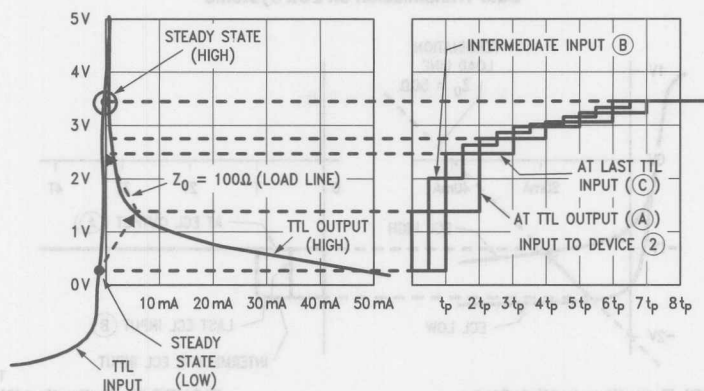

FIGURE 3a. TTL Transition to High State
*Figure 3a* shows IV curves of TTL inputs and outputs in the HIGH state. These curves can be equated to time domain reflection diagrams illustrating the signal integrity. For the example of a  $100\Omega$  environment, *Figure 3b* shows the resulting waveforms. For this example, any input at the far end of the line will receive a relatively clean signal. The signal is above the  $V_{IH}$  level at  $t = T$  and data can be properly identified. The slight bump at  $t = 3T$  only cleans up the signal further. The problem arises if another input is placed near the device output. Due to the reflection from the far end of the line, the input at A (device 2) has to wait until  $t = 2T$  before it receives clear identifiable data! Furthermore, any input placed somewhere between the output and the end of the transmission line will see some distorted signal which may not provide a valid data transition until  $t = 1.5T$ . This example is relatively simple; even still, such a reflected delay can amount to a significant percentage of the overall cycle rate and can cause a marked degradation in system speed. Depending on the type of routing scheme used, and the actual impedances of the PCB, even greater delays can occur.